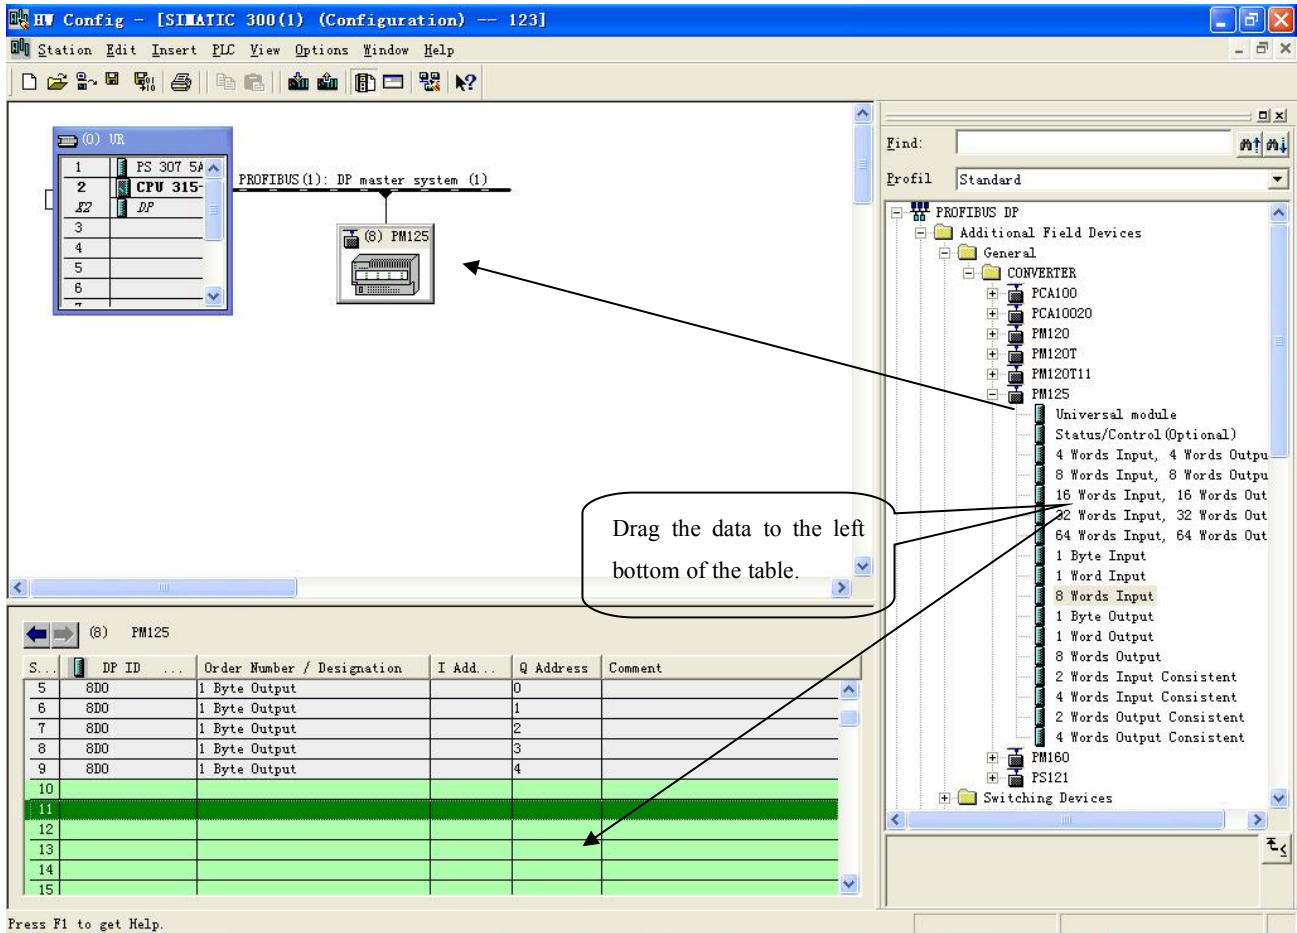

Figure 10
11. Configure PM-125 slave station into PROFIBUS DP network, and map the input and output data block to S7-300 or other controller's memory, Figure 10: